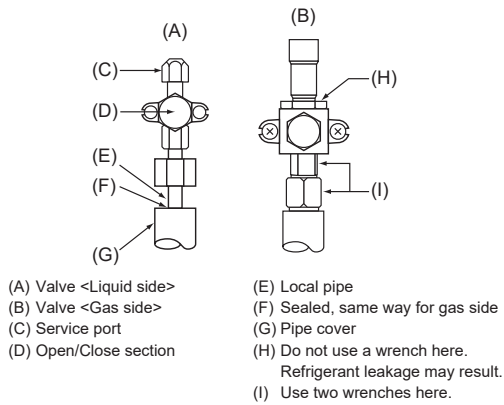

Fig. 4-4
4.4. Refrigerant pipe airtight testing method (Fig. 4-4)
- Make sure the valves (A) (B) are closed and do not open them.
- Add pressure to the refrigerant lines through the service port (C) of the liquid valve (A).